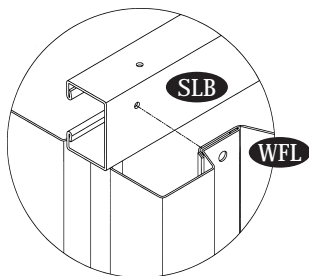

Fig.1
9. Place the sliding channel left (SLB) on top of the wall panel (WFL) from inside. See the position in fig1. Line up the holes with wall panel use (S1) screws with washers to fix. See fig. 2